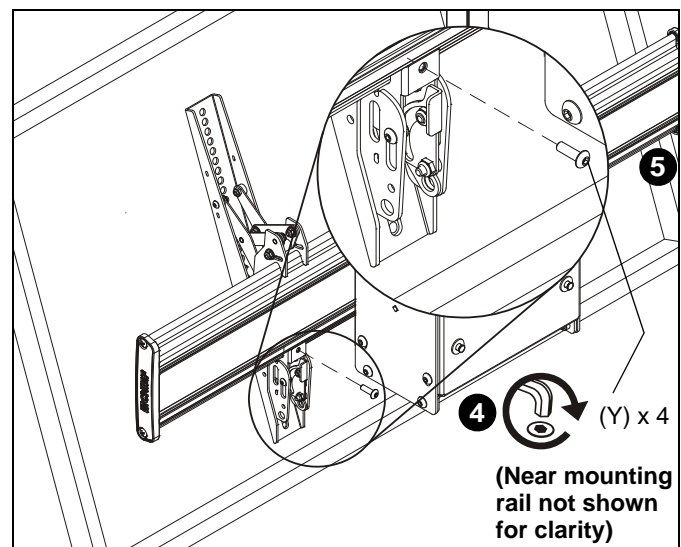

Figure 8
- Fasten bracket against ceiling mount using one 10-24 x 5/8" button head cap screw (Y). (See Figure 8)